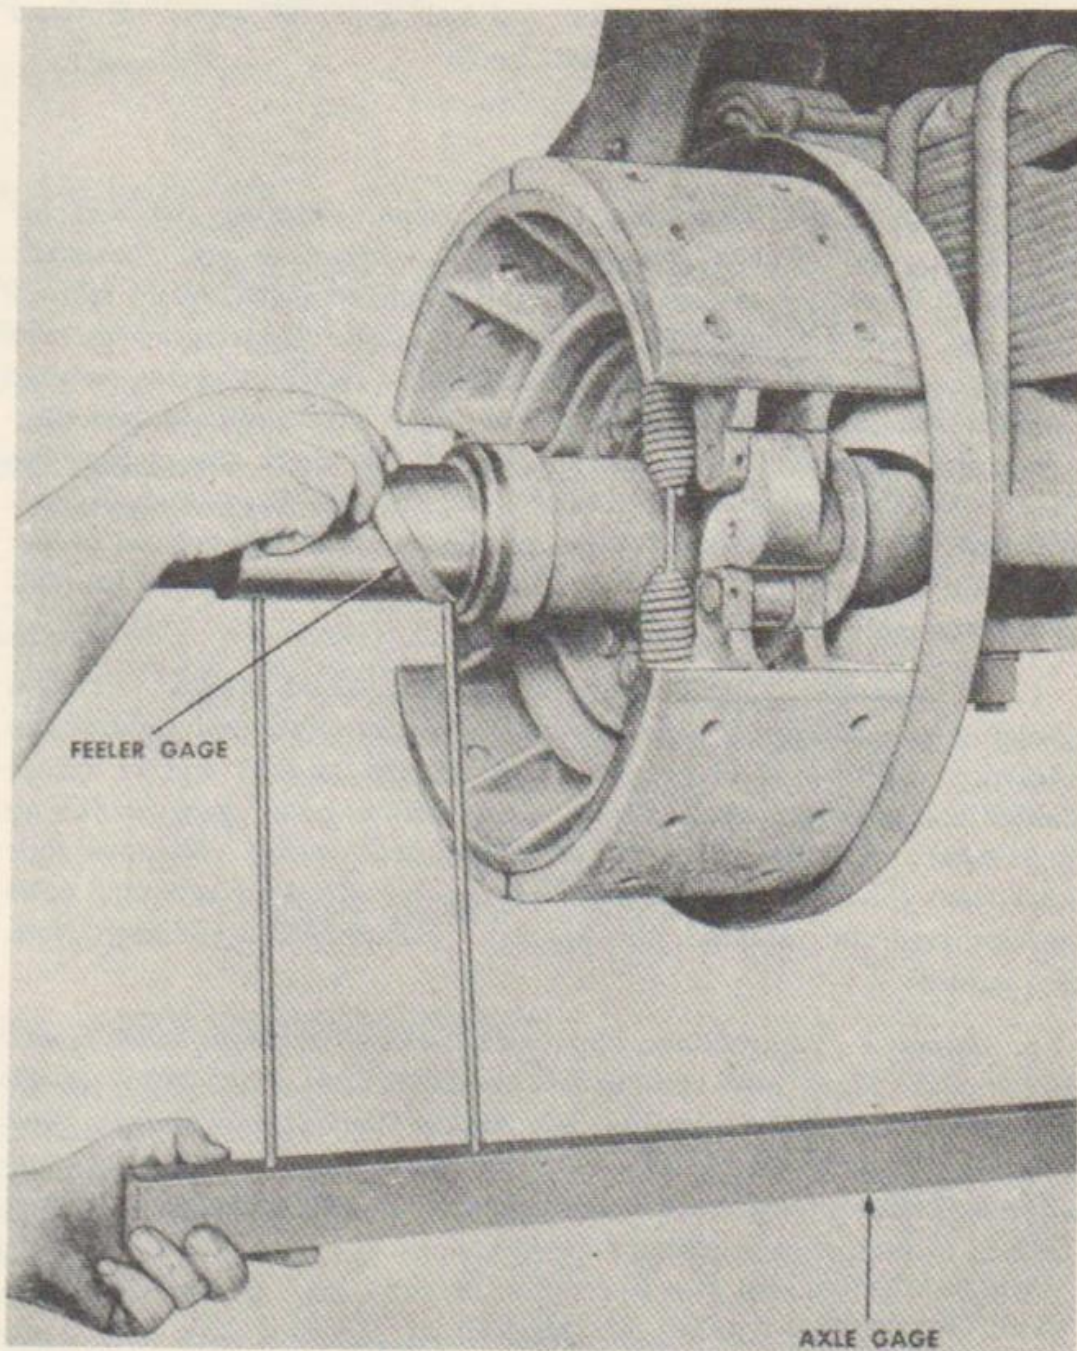

FIGURE 80. CHECKING AXLE CAMBER
(1) Place axle gage in position on front side of axle with the single pronged end of the gage held firmly against the inner bearing surface. Adjust the double prongs on the opposite end of the gage until they contact the inner and outer bearing surface. Move the gage over to the rear side of the axle. If either of the two prongs fail to make contact, a bent axle is indicated. Use a feeler gage to determine the amount of bend. If it is in excess of 0.020 inch, replace axle.
(2) If when checking both sides of one spindle it reveals no bend, turn the gage end for end and check the other spindle without disturbing the setting of the prongs. If there is clearance at either bearing surface, check with a feeler gage. If the prongs are in contact at both points, the axle is not bent.
b. Checking Axle Camber (fig. 80). Axle can be checked for camber installed or removed from the vehicle. When checking axle for camber, check for bend first and do not disturb the setting of the prongs. Prong settings established on a straight axle are a necessary factor in checking for camber. Place gage directly under axle. There must be clearance between inner prong and inner bearing